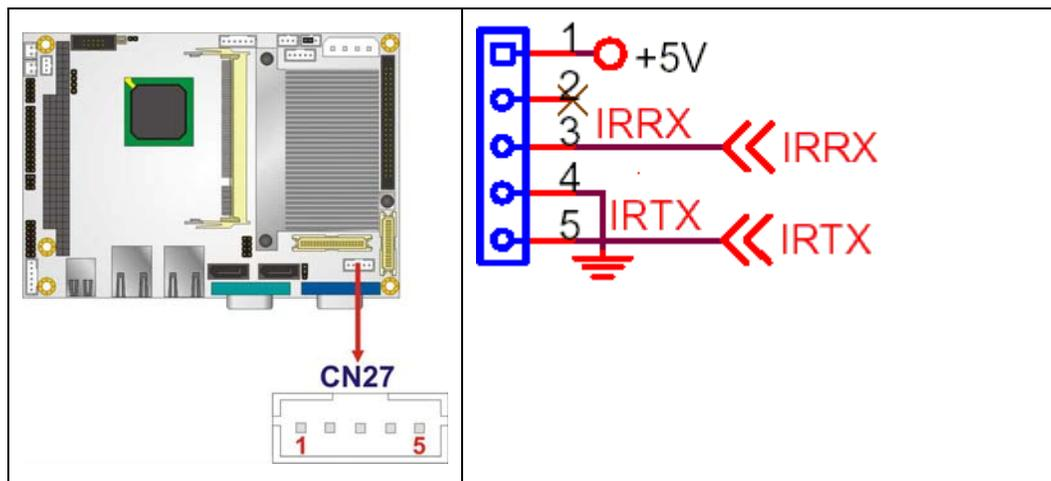

Figure 4-14: Infrared Connector Pinout Locations
- CN Location:** See **Figure 4-14**